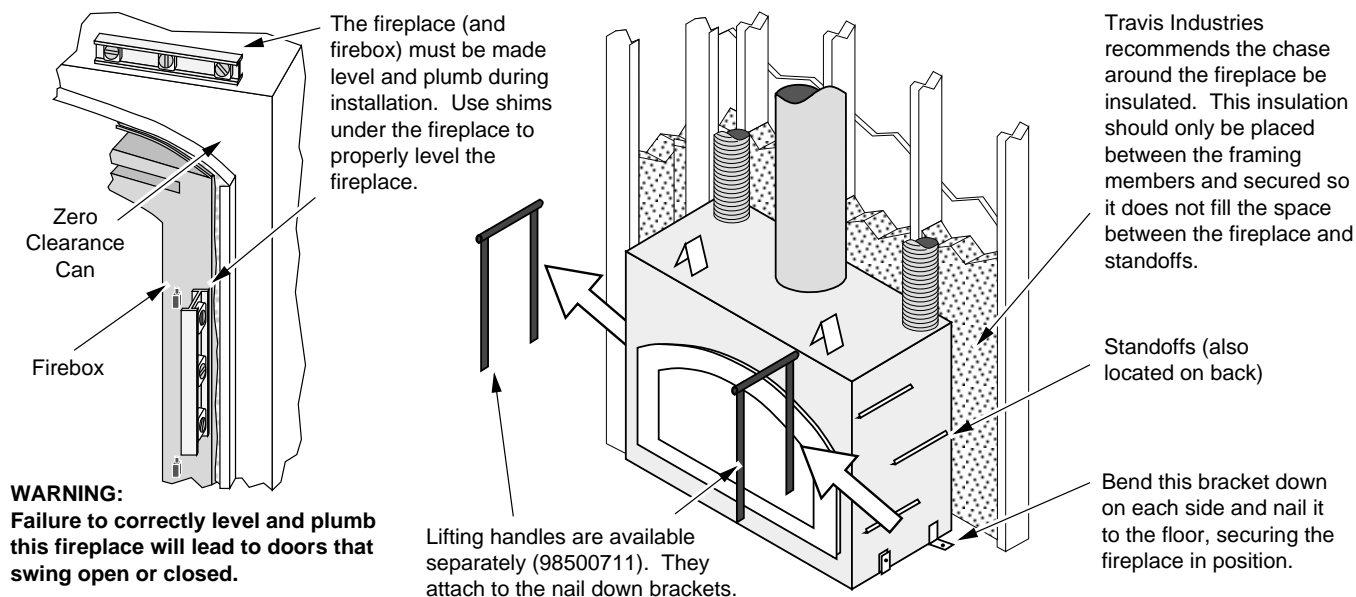

Figure 10
- The fireplace must be secured to the floor (use the lifting handle brackets - see Figure 10).